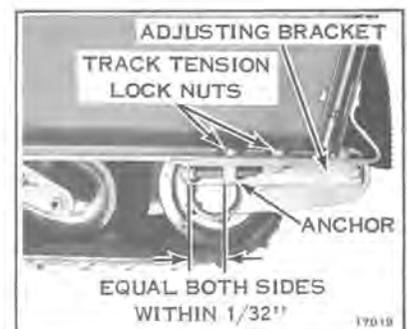

Figure 11-4
- d. Measure distance from front edge of adjusting bracket to anchor. If this distance is not equal on both sides, loosen the adjustment on the side nearest to the rear until the distance from front edge of the adjusting bracket to the anchor is equidistant within 1/32 inch. See Figure 11-4.
10. Remove four track tension lock nuts. See Figure 11-4.